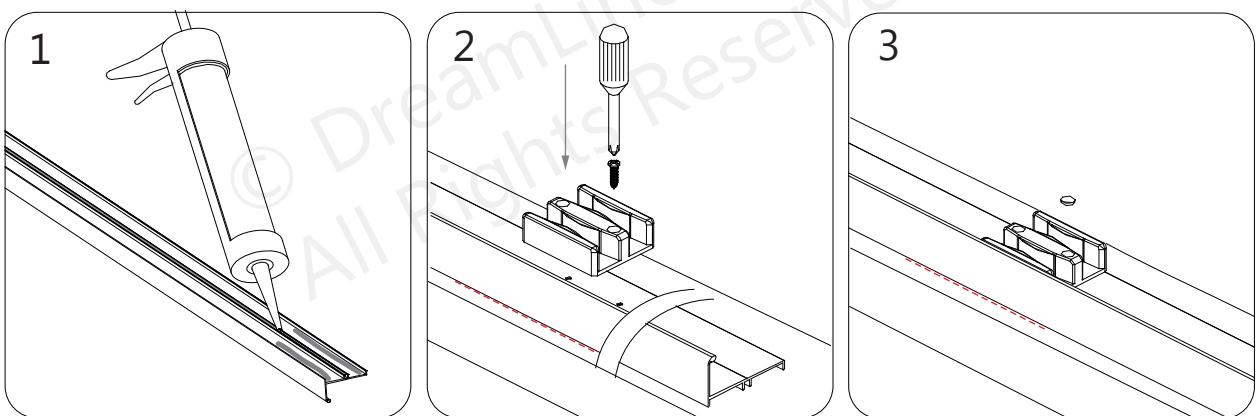

Fig 7
7. Apply silicone to the bottom surface of the **Bottom Guide Rail (#15)** and place it back into position on the threshold. Attach the **Guide Block (#05)** and **Bottom Guide Rail (#15)** to the threshold using two of the **ST4.2 x16 Screws (#12)** and cover the screw holes with the decorative caps. **(Fig 7)**